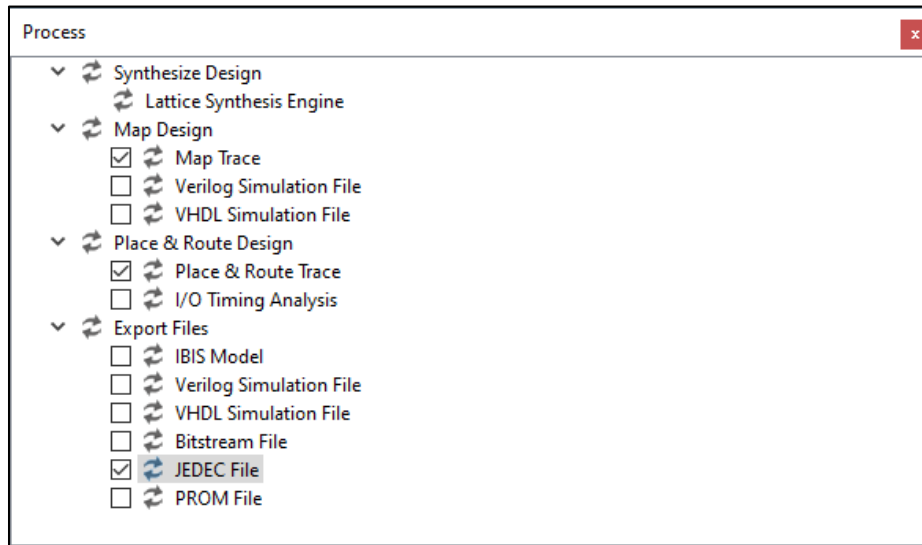

Figure 4.2. Diamond Software – Process Pane
- In the **Process** pane, select the **JEDEC File** option under **Export Files**, as shown in Figure 4.2.